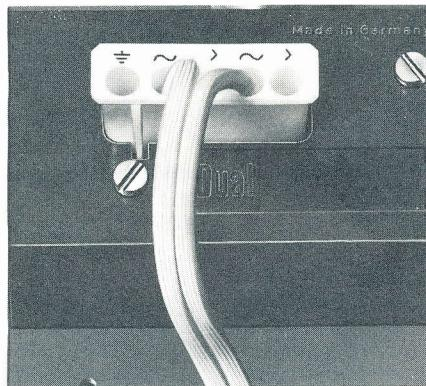

Fig. 2
B. No. 213 982; AMP-No. 160 565/1 (Fig. 2)